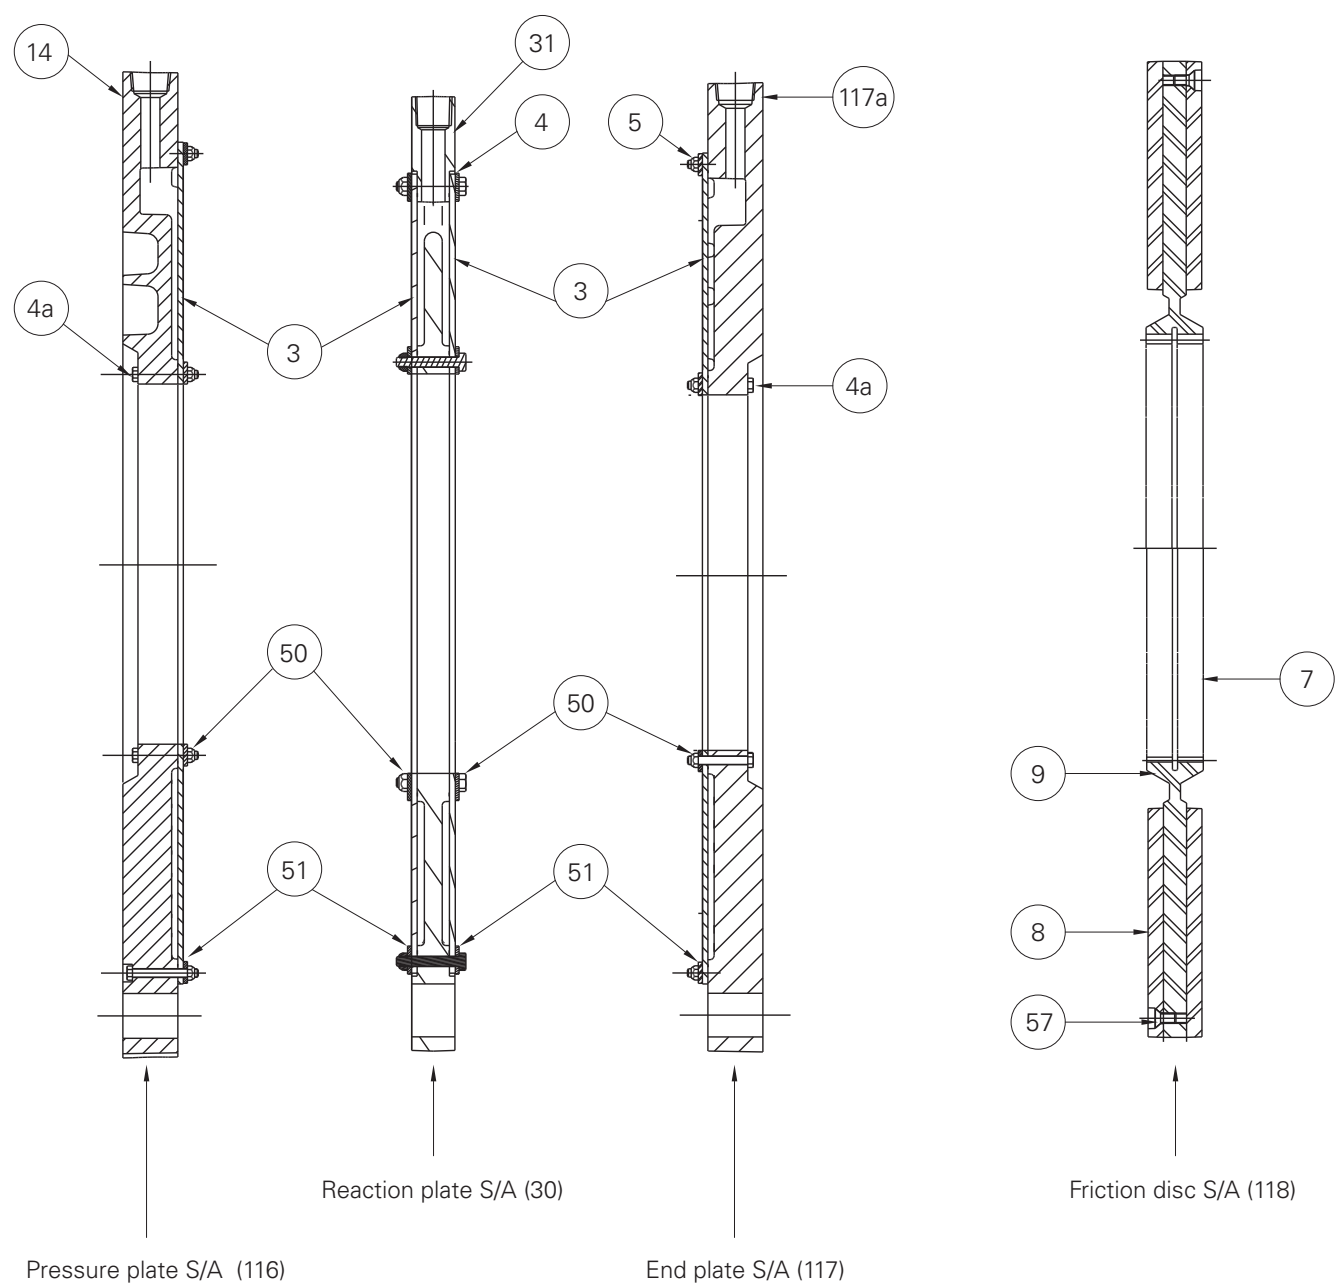

Figure 22
6.4.1 Parts Breakdown of WCSB Reaction Plate Sub-Assemblies (Item 30). Reference: Figure 22.
6.4.2 Parts Breakdown of WCSB Pressure Plate Sub-Assemblies (Item 116). Reference: Figure 22.
6.4.3 Parts Breakdown of WCSB End Plate Sub-Assemblies (Item 117). Reference: Figure 22.
6.4.4 Parts Breakdown of WCSB Friction Disc Sub-Assemblies (Item 7). Reference: Figure 22.